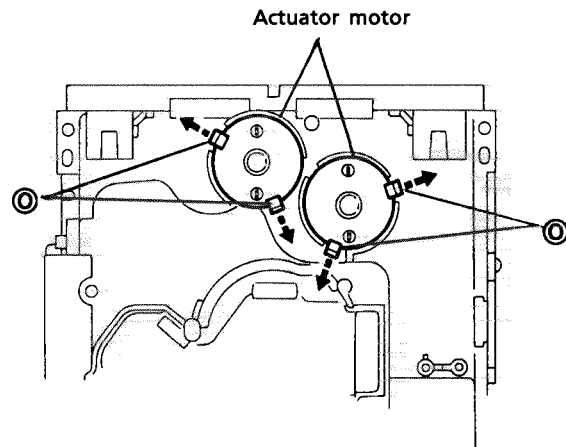

Fig. 39
5. Reverse the chassis ass'y and widen 4 pawls ⑤ which secure both actuator motors to its arrows to remove the actuator motors. (See Fig.39.)